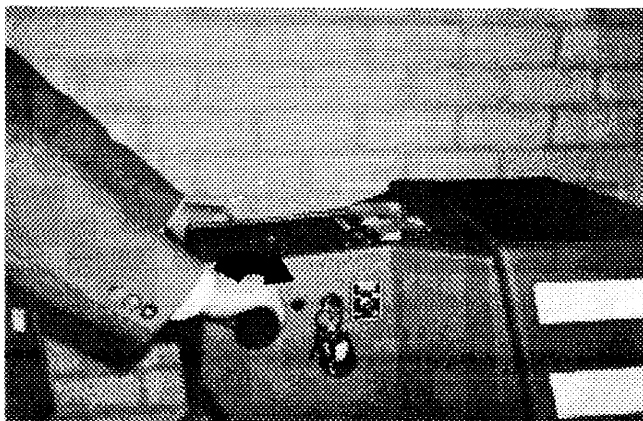

FIG. 6.
4. Twist the control grips forward (Figure 6). The pad motor will start and suction will draw the moving pad to the floor. Immediately push or pull the machine in the desired direction.
5. Twist control grips forward until the pad motor starts (Figure 6). The machine will transport forward and suction will draw the moving pad to the floor.